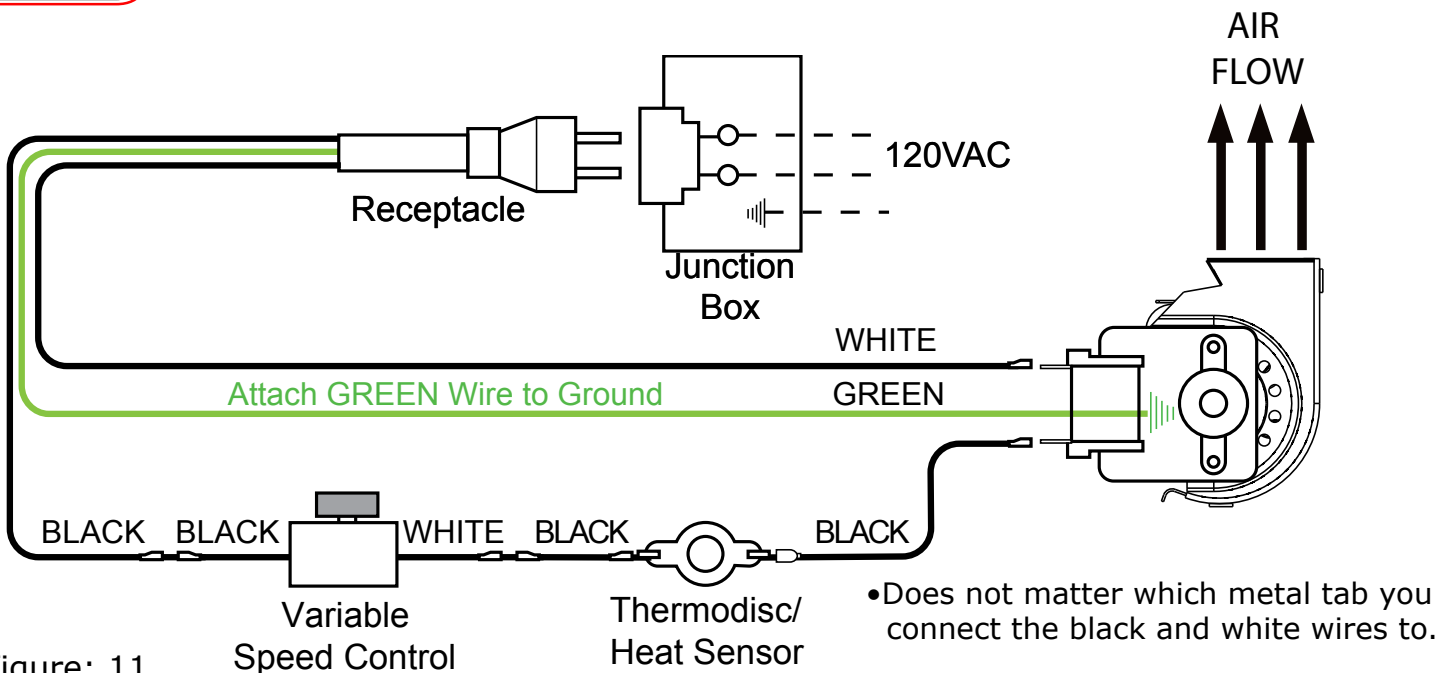

Figure: 11
•Wiring Diagram for this Blower Kit is illustrated in Figure: 11.